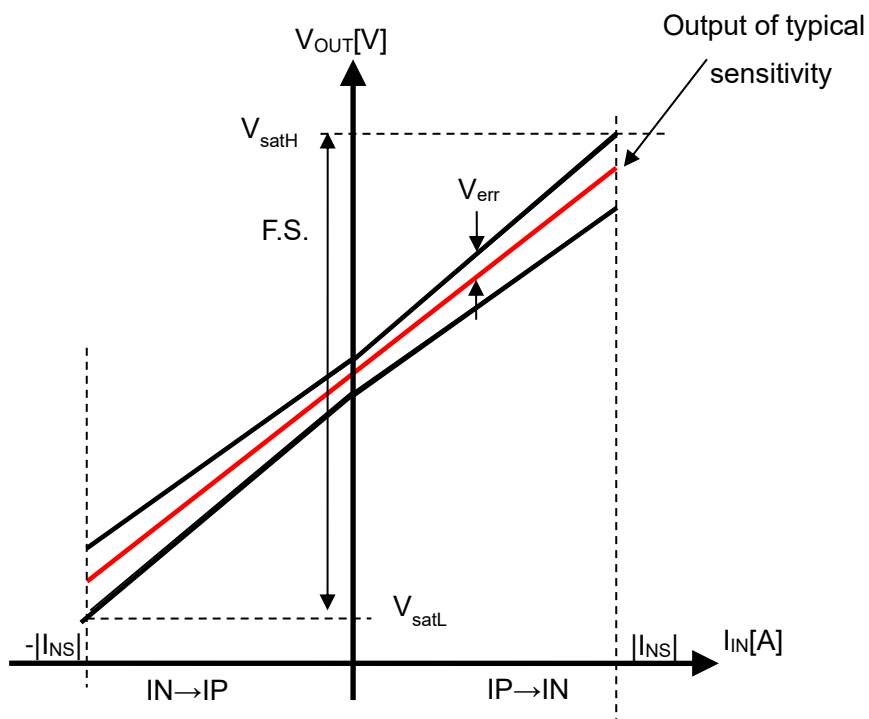

Figure 4. Total Accuracy of CZ-3AG5
10.2. Total Accuracy  $E_{total}$  [%F.S.] is defined as below (See Figure 4.)